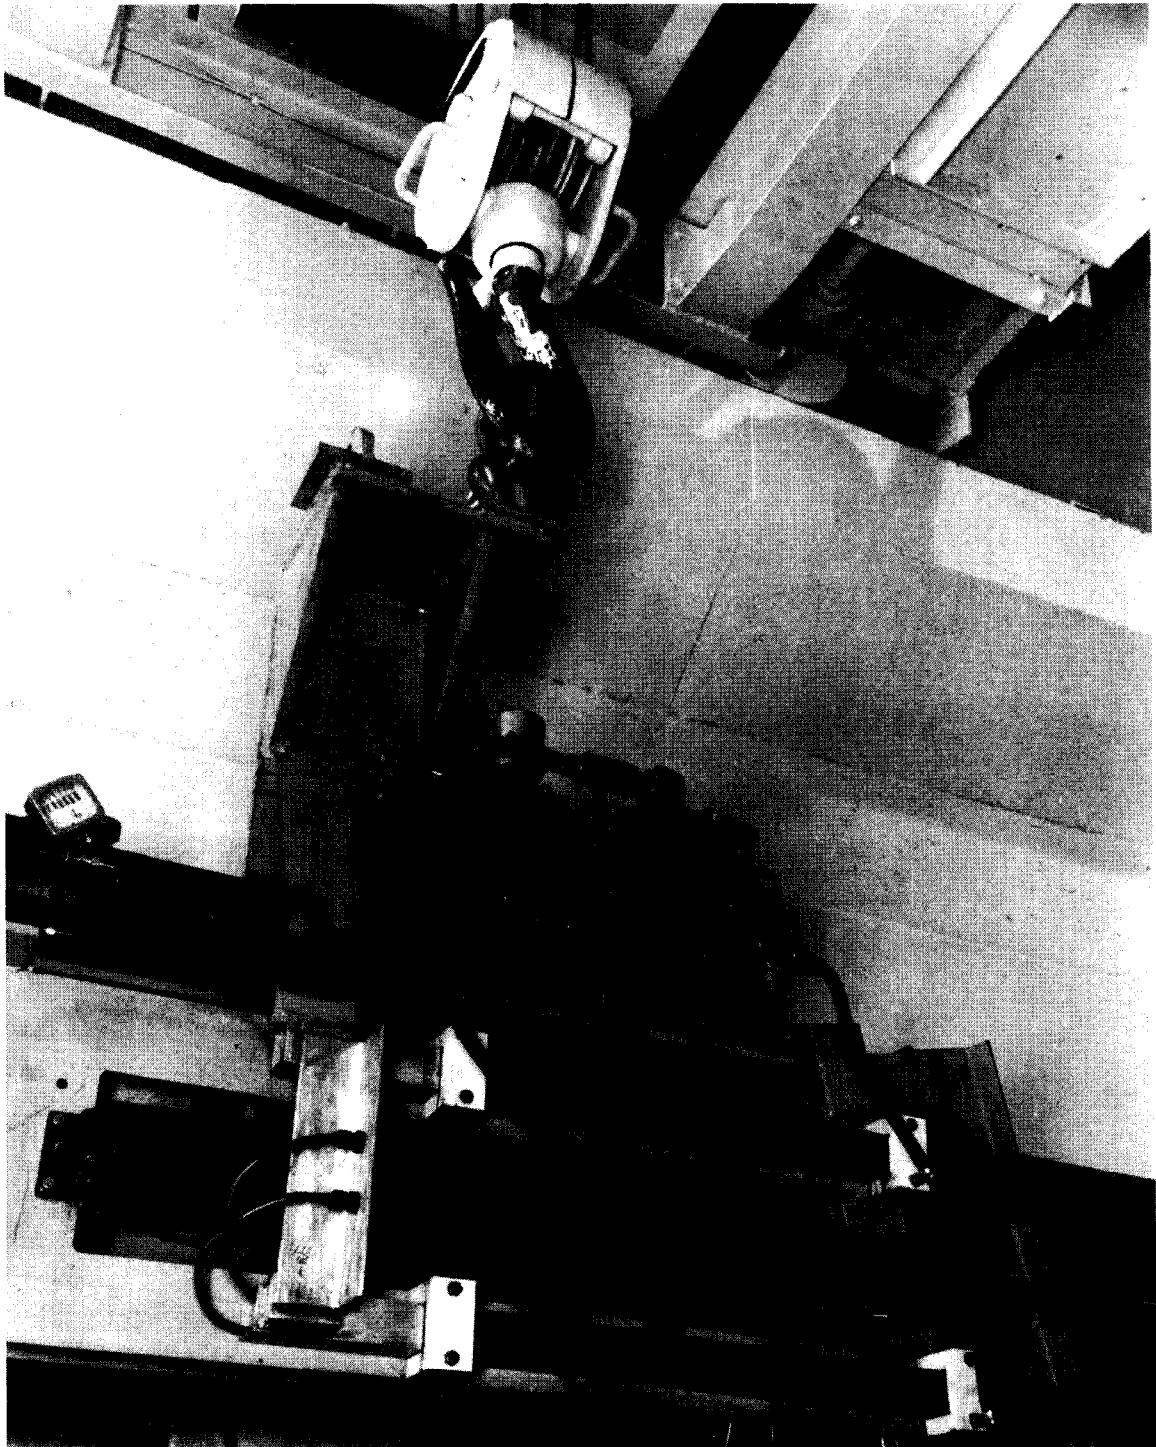

FIG. 4
- B. Pick up with crane. Use eye shown for East dump (fig. 4) and other eye for A-dump.